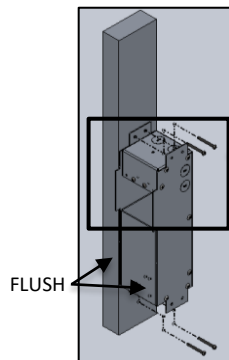

FIG. 12- J-BOX ASSEMBLY TO WALL
4. Attach RECESSED JUNCTION BOX to WALL STUD or CEILING JOIST at desired height and location before drywall is installed as shown below in FIG.12. Use appropriate anchor screws to secure to stud.